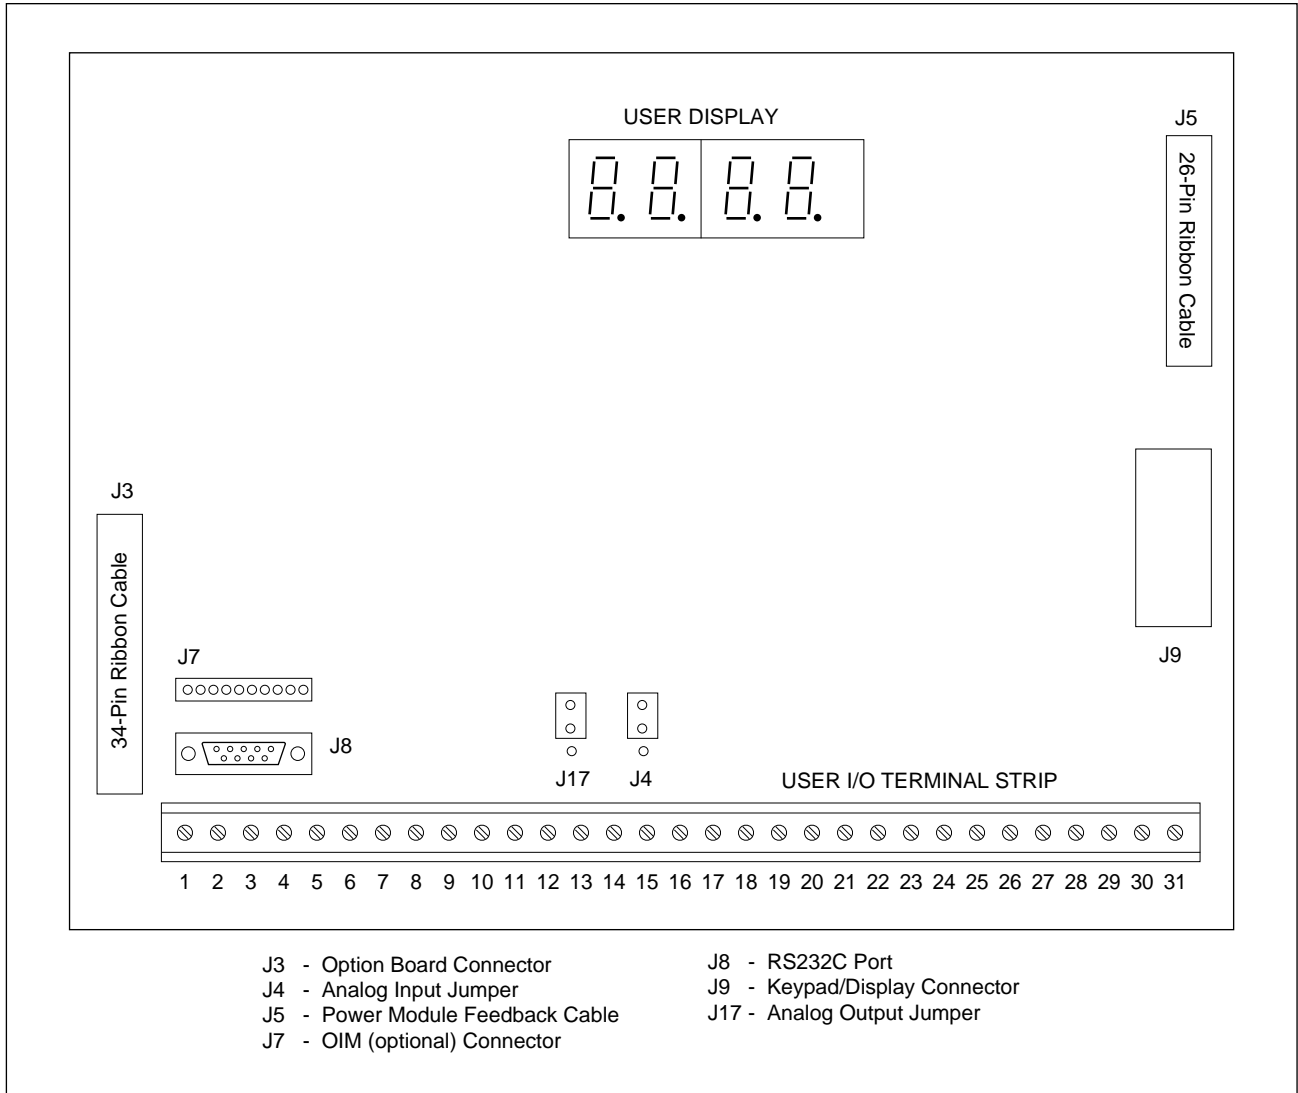

Figure 2.5 – Regulator Board Component Locations
GV3000/SE drive regulation is performed by a microprocessor on the Regulator board. See figure 2.5. Drive operation is adjusted by the parameters entered through the keypad. The Regulator board accepts power circuit feedback signals and an external speed reference signal, as well as data from encoder that is attached to the motor when set up for FVC regulation. The Regulator board provides:
Jumpers J4 and J17 on the Regulator board are factory-set for voltage in and voltage out signals. Refer to figure 2.5 for their locations on the Regulator board. If you need to change the jumpers' settings, use the following procedures.
- Step 4. Locate jumper J4 on the Regulator board. Refer to figure 2.5.
- Step 4. Locate jumper J17 on the Regulator board. Refer to figure 2.5.
The terminal strip on the Regulator board provides terminals for connecting customer I/O devices. See figures 2.5 and 2.8. The following terminals are provided:
The Regulator board contains a 9-pin D-shell RS-232 communication port (J8). This port provides RS-232 communication between the GV3000/SE drive and a personal computer running the Control and Configuration (CS3000) software. See figure 2.5. Refer to instruction manual D2-3348, for more information about the CS3000 software.
The flat-ribbon cable connector (J3) on the left side of the Regulator board is a parallel bus connection port that provides a means of attaching optional boards such as the DeviceNet Option board, the RMI board, or the AutoMax Network Option board, or similar boards to the GV3000/SE drive. See figure 2.5. The option board is mounted below the Regulator board inside the drive. Refer to the appropriate board instruction for more information. Refer to section 2.5 of this manual for more information on optional drive kits.